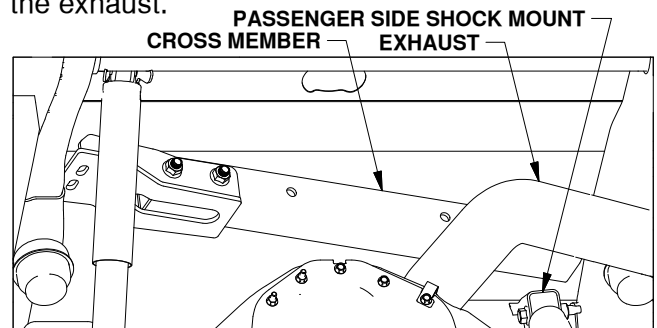

Figure B3: View looking up at bottom of bed over axle.
4. **Place the forward cross member.** Under the truck, lift the end of the cross member assembly without the cross member bracket over the exhaust towards the passenger side shock mount, as shown in Figure B3. Bring the cross member bracket over the brake line bracket on the driver side of the truck and rest the flat end of the cross member bracket on the frame. Move the cross member so the end of the cross member assembly with no cross member bracket is resting on the exhaust.